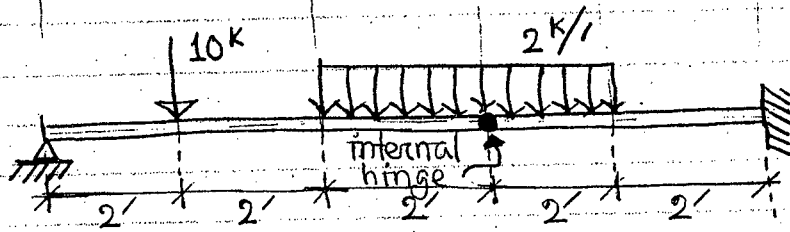

Fig. 3.
3. Draw shear force and bending moment diagram of beam shown in Fig. 3. (14)